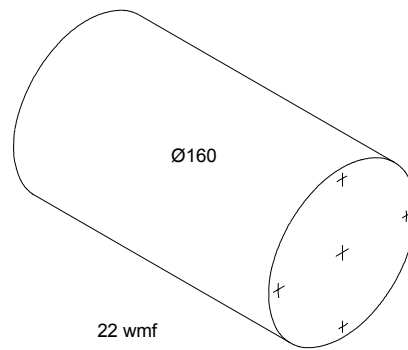

Figure 3.
3. Place the anemometer at the end of the Ø160 measuring pipe and measure at the 5 test points. Figure 3. The average velocity in the work opening must exceed 0.4 m/second.